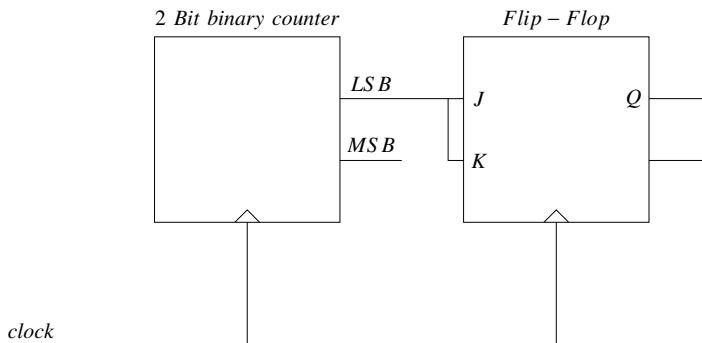

Fig. 5.29
30. For the circuit shown in Fig. 5.29, the clock frequency is f_0 and the duty cycle is 25%. For the signal at the Q output of the Flip-Flop,